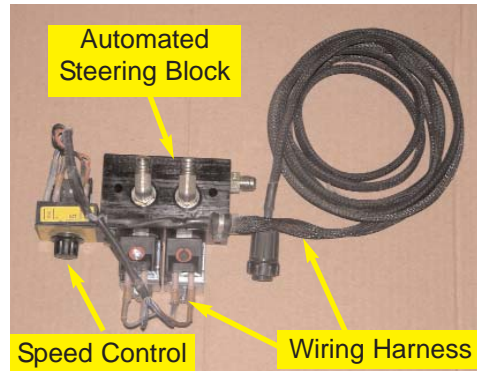

Figure 1a. Automated steering block
b. Remove the wiring harness and speed control knob assembly from the automated steering block. (Figure 1a. and 1b.)